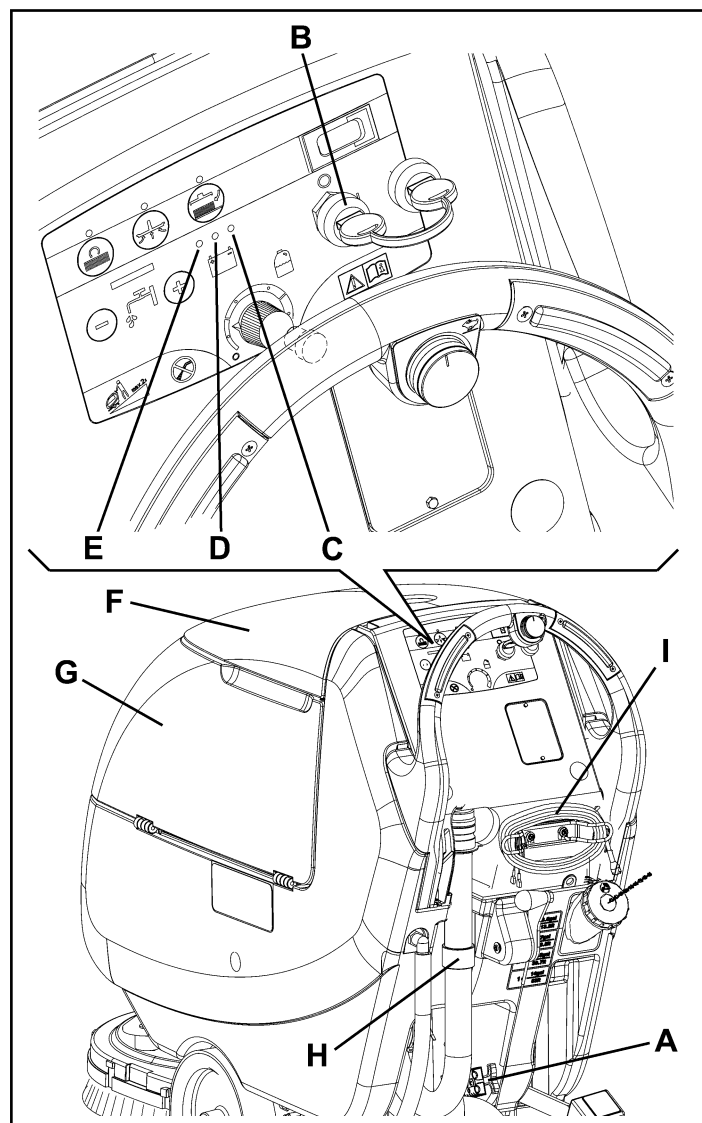

Figure 5
Check the batteries for damage before installation. Disconnect the battery connector (A, Fig. 5) and the battery charger plug (I).
1. Check that the batteries are connected to the machine with the connector (A, Fig. 5).
2. Insert the ignition key (B) and turn it to "I".